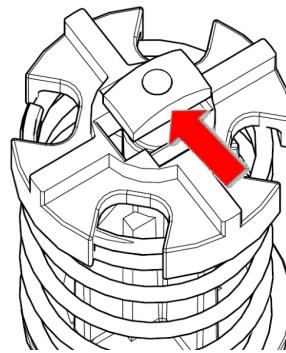

Figure 5
1. Using needle nose pliers, place the bypass valve retainer on top of the bypass valve spring. Carefully align the slot in the top of the bypass valve retainer with the locking tab on top of the bypass valve (Figure 5).